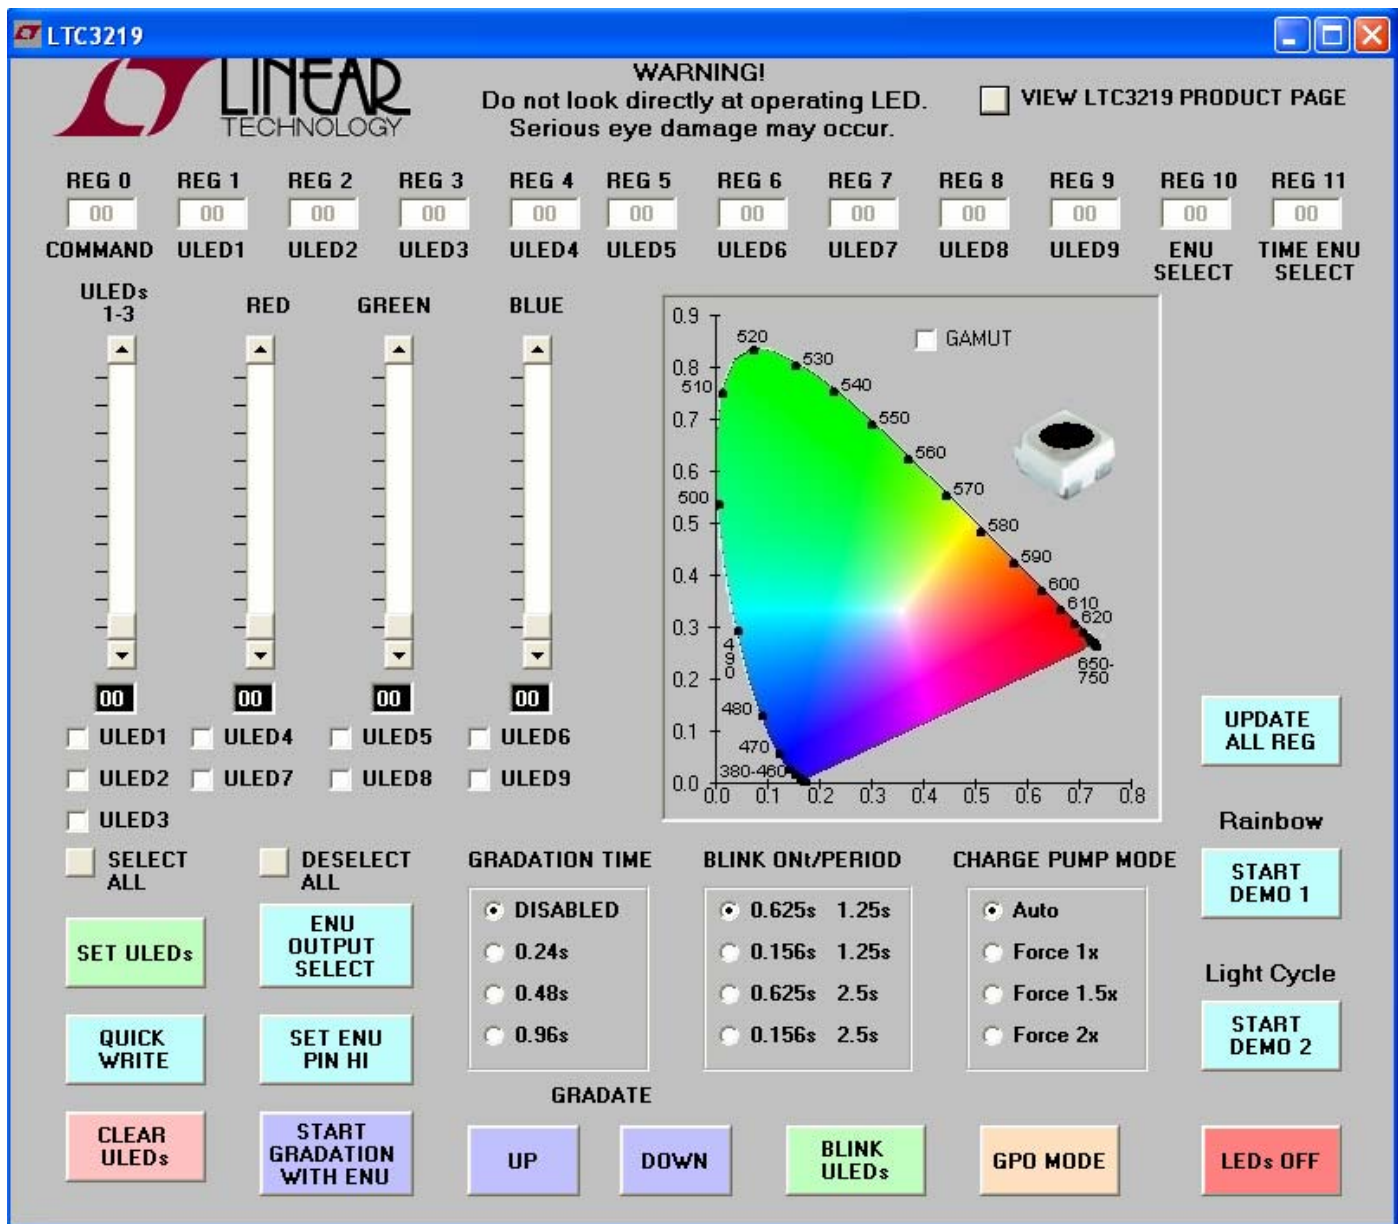

Figure 3. LTC3219 Control Window
6. Run the QuikEval program. The program detects the DC1055 and displays the LTC3219 control window (shown in Figure 3).